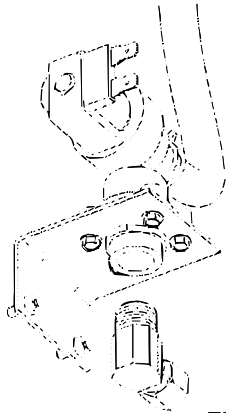

FIG 12
- 1 Locate the water inlet valve. The valve has a 3/8" NPT female fitting. See Figure 12.